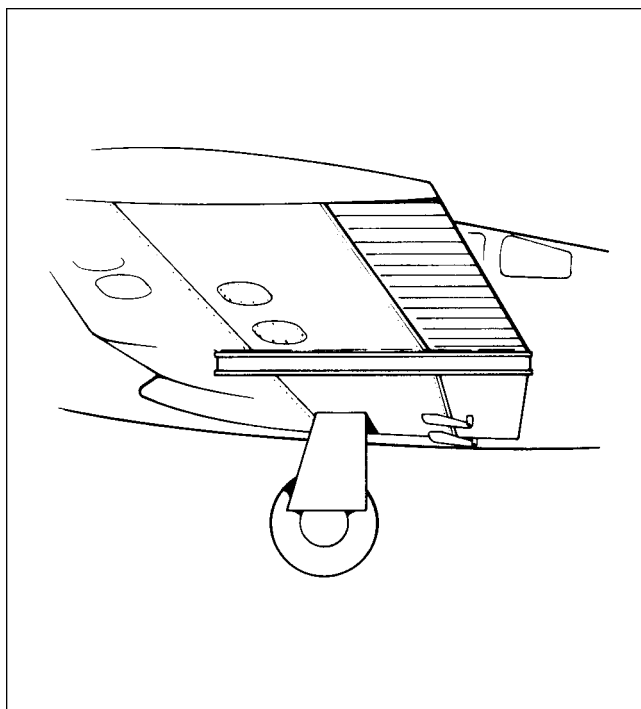

Figure 5-4. Aileron Rigging Tool
2. Place an aileron rigging tool as shown in Figure 5-4 against the underside of the wing and aileron as close as possible to the inboard end of the aileron without contacting any rivets. The tool must be positioned parallel with the wing ribs, with the aft end of the tool even with the trailing edge of the aileron. (This tool may be fabricated from dimensions given in Figure 5-19.)